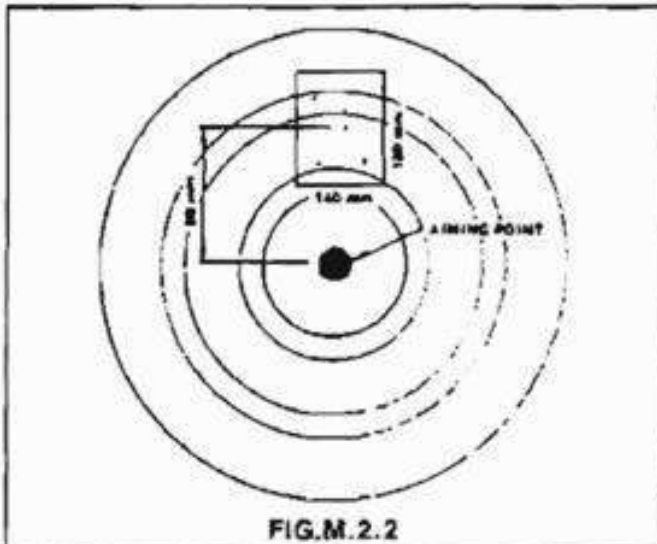

FIG.M.2.2
3. The mean point of impact (MPI) of all the shots must be placed in a rectangle of dimensions 180 mm high and 140 mm wide, with its centre 90 mm above aiming point. See Fig. M.2.2.